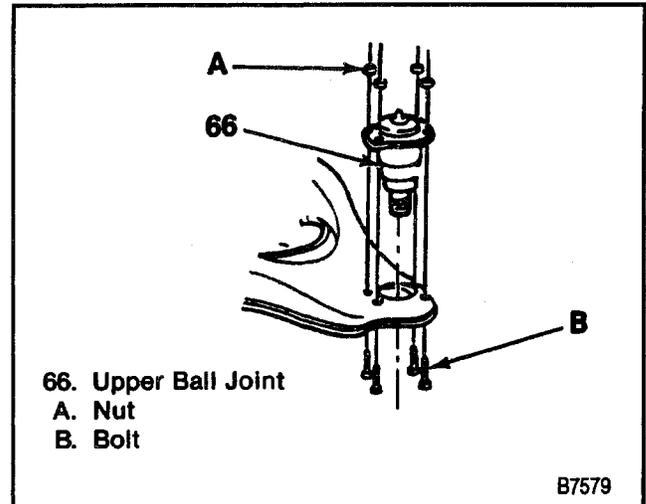

Figure 21—Installing the Upper Ball Joint
1. New upper ball joint (66) to the upper control arm (42) (Figure 21).
- Position four attaching bolts and nuts (Figure 21).
- Nuts (A) to 24 N.m (18 lb ft).
2. Upper ball joint (66) to the steering knuckle.
3. Stud nut (67).
- Nut (67) to 100 N.m (74 lb ft).